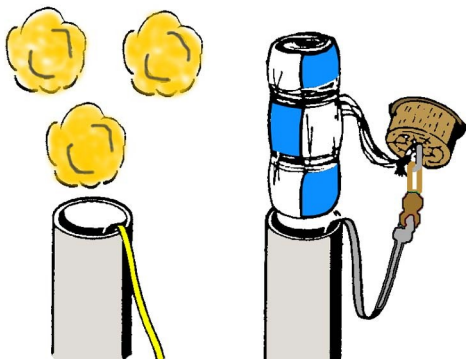

Figure 12
- **Step 21** When packing the parachute into the body tube, insert several balls of crumpled Recovery Wadding (the sheet kind), or at least 2" of shredded cellulose insulation, into the tube and lightly tamp it down until it is just above the motor tube. See Fig. 12. Do not pack this material tightly! The purpose is to provide a protective gas seal between the motor